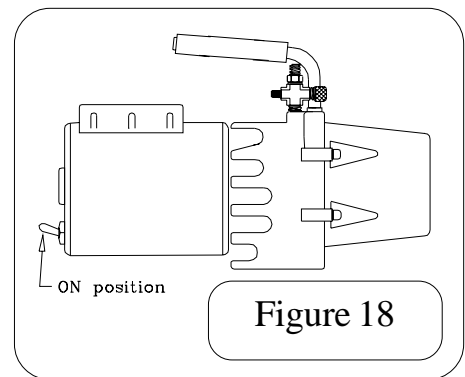

Figure 18
7. Make sure the switch on the rear of the vacuum pump is on. (Refer to Figure 18).